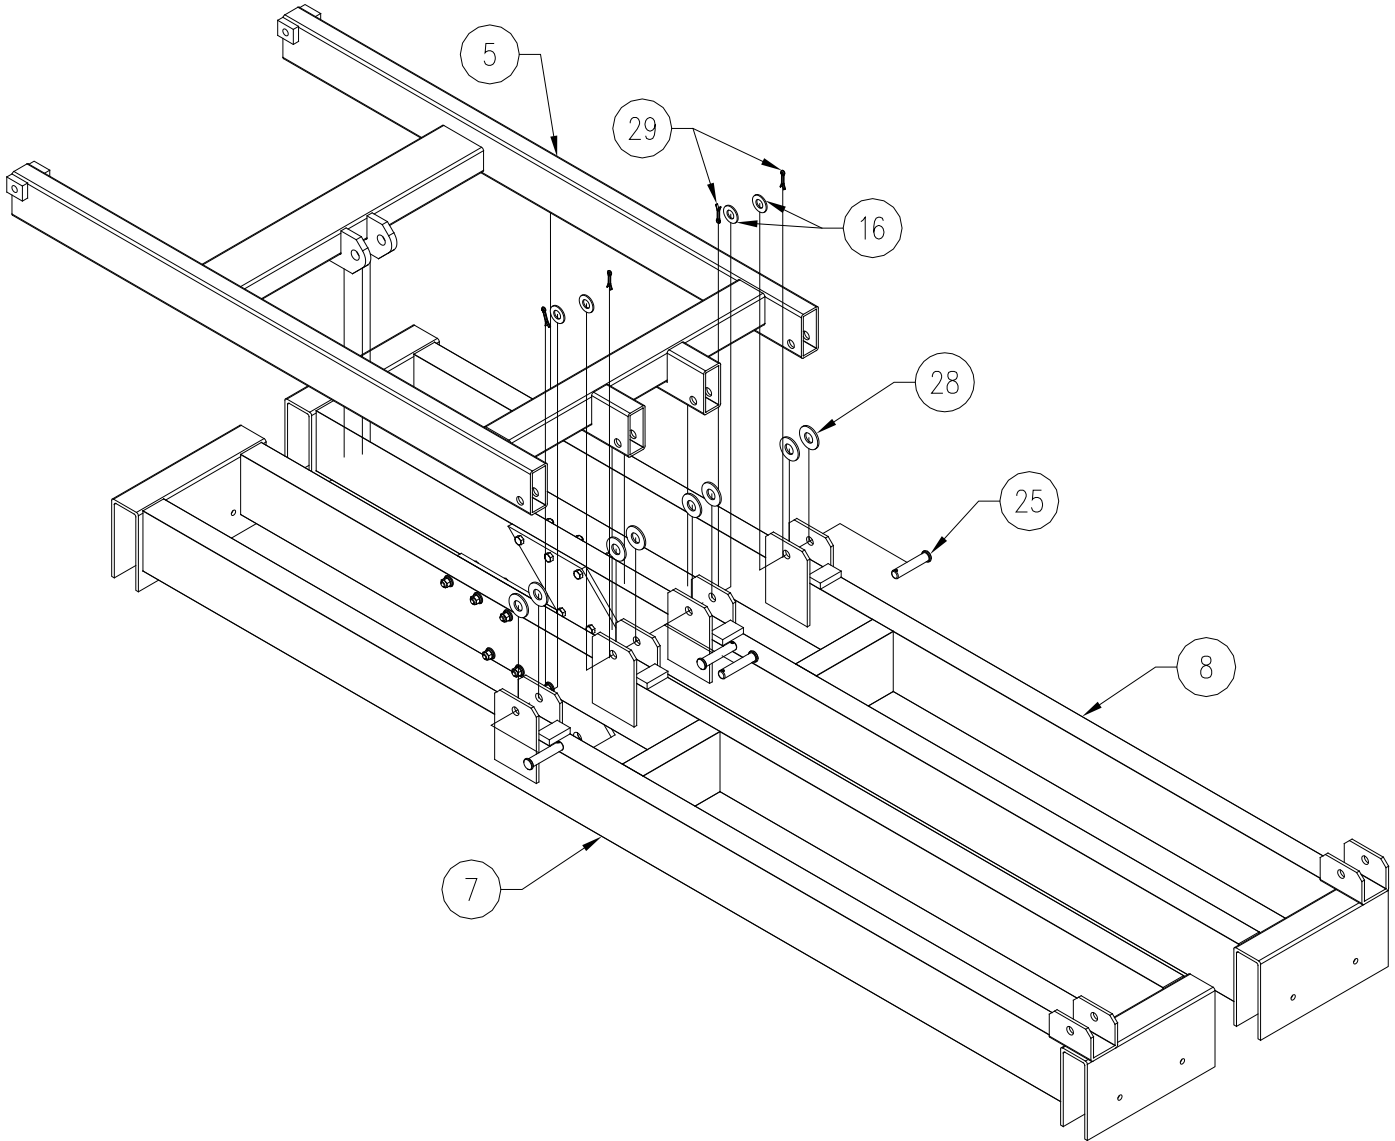

Figure 3-3.
1. Refer to **Figure 3-3**. Install rear lift arm (5) to the main frame. Before inserting clevis pin (25), install nylon washer (28) between the main frame and the main frame liftarm support. Insert clevis pin (25) through the main frame and hole in the liftarm. Install flat washer (16) and cotter pin (29) on each clevis pin. Secure clevis pin by spreading end of cotter pin apart and bending around clevis pin.